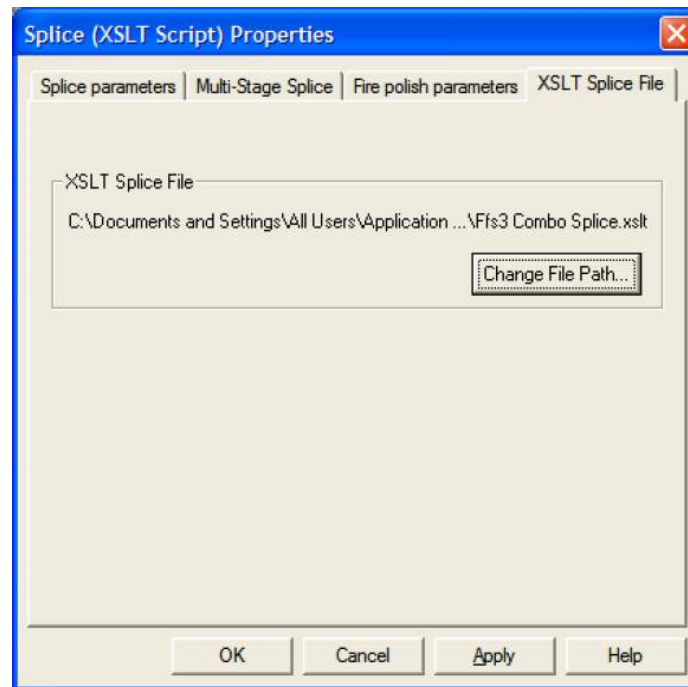

Figure 34 **Setting the .xslt File path**
- A Multi Stage Splice requires a special splice XSLT file to be selected. In Figure 34, the file FFS3 Combo Splice.xslt is selected.